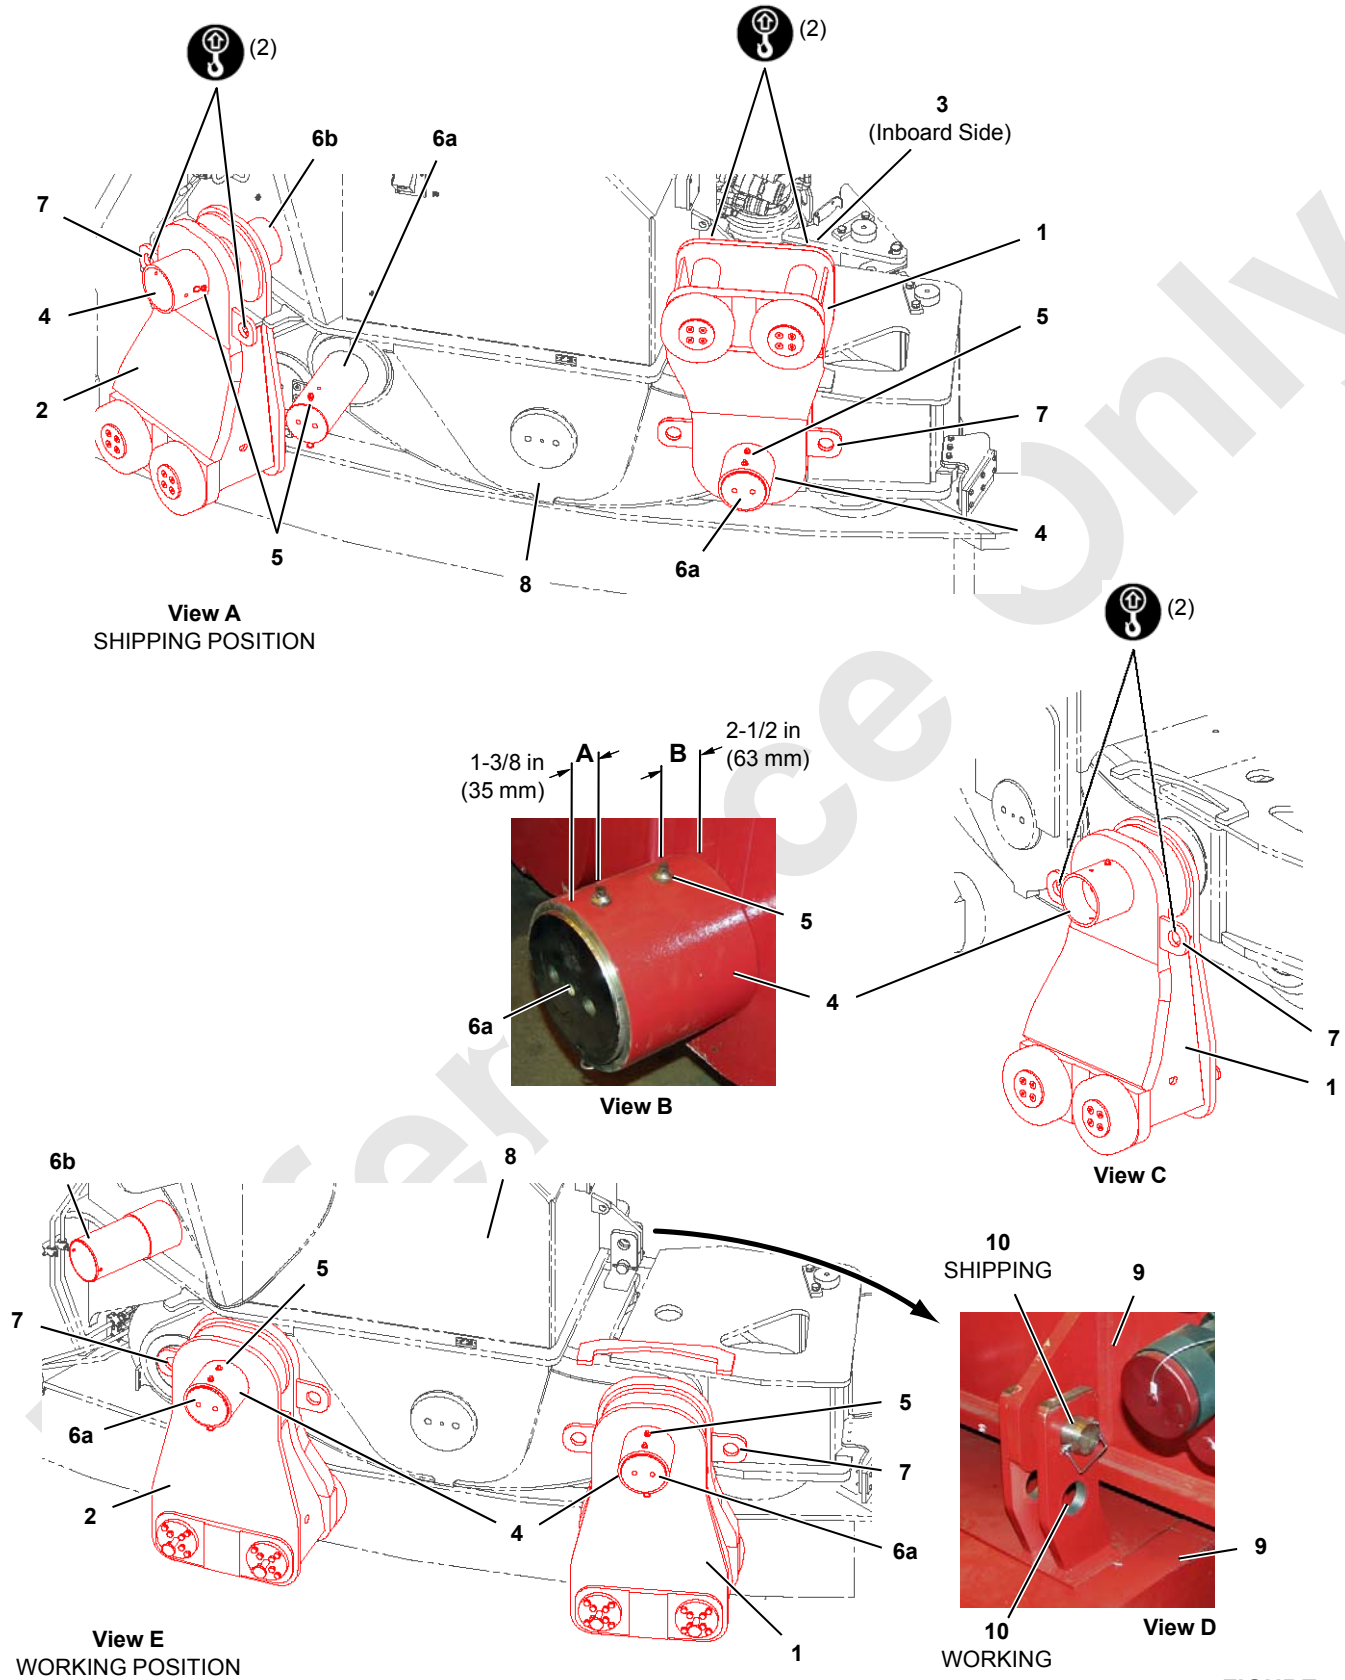

FIGURE 4-45
Legend for Figure 4-45
Perform the following steps at all four roller frames (9, Figure 4-45, View D).
See Figure 4-45 for the following procedure.
Rear roller carrier (8) is shown in Figure 4-45, but the procedure is identical for both roller carriers.
- d. Rotate spacer (4) end for end and install it — end A first (View B) — on pivot pin (6a, View C).
- f. Pull hook roller (1) out to disengage it from the retaining lugs on the roller carrier and rotate the hook roller down (View C).